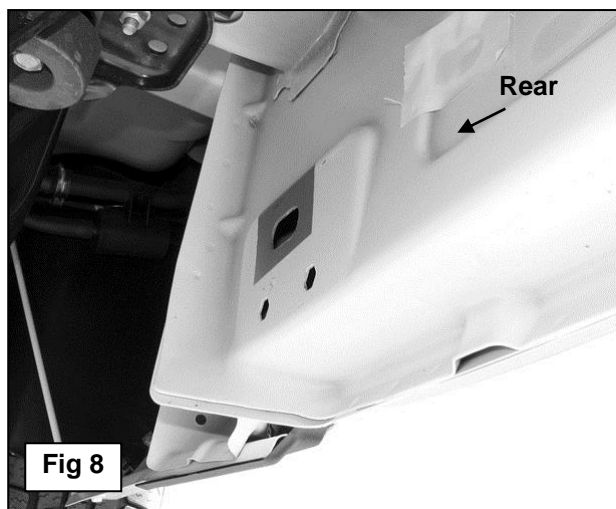

Fig 8
7. Repeat **Step 6** to install the driver side Rear Cab Bracket at the rear mounting location along the inner body panel, (**Figure 8 & 9**).